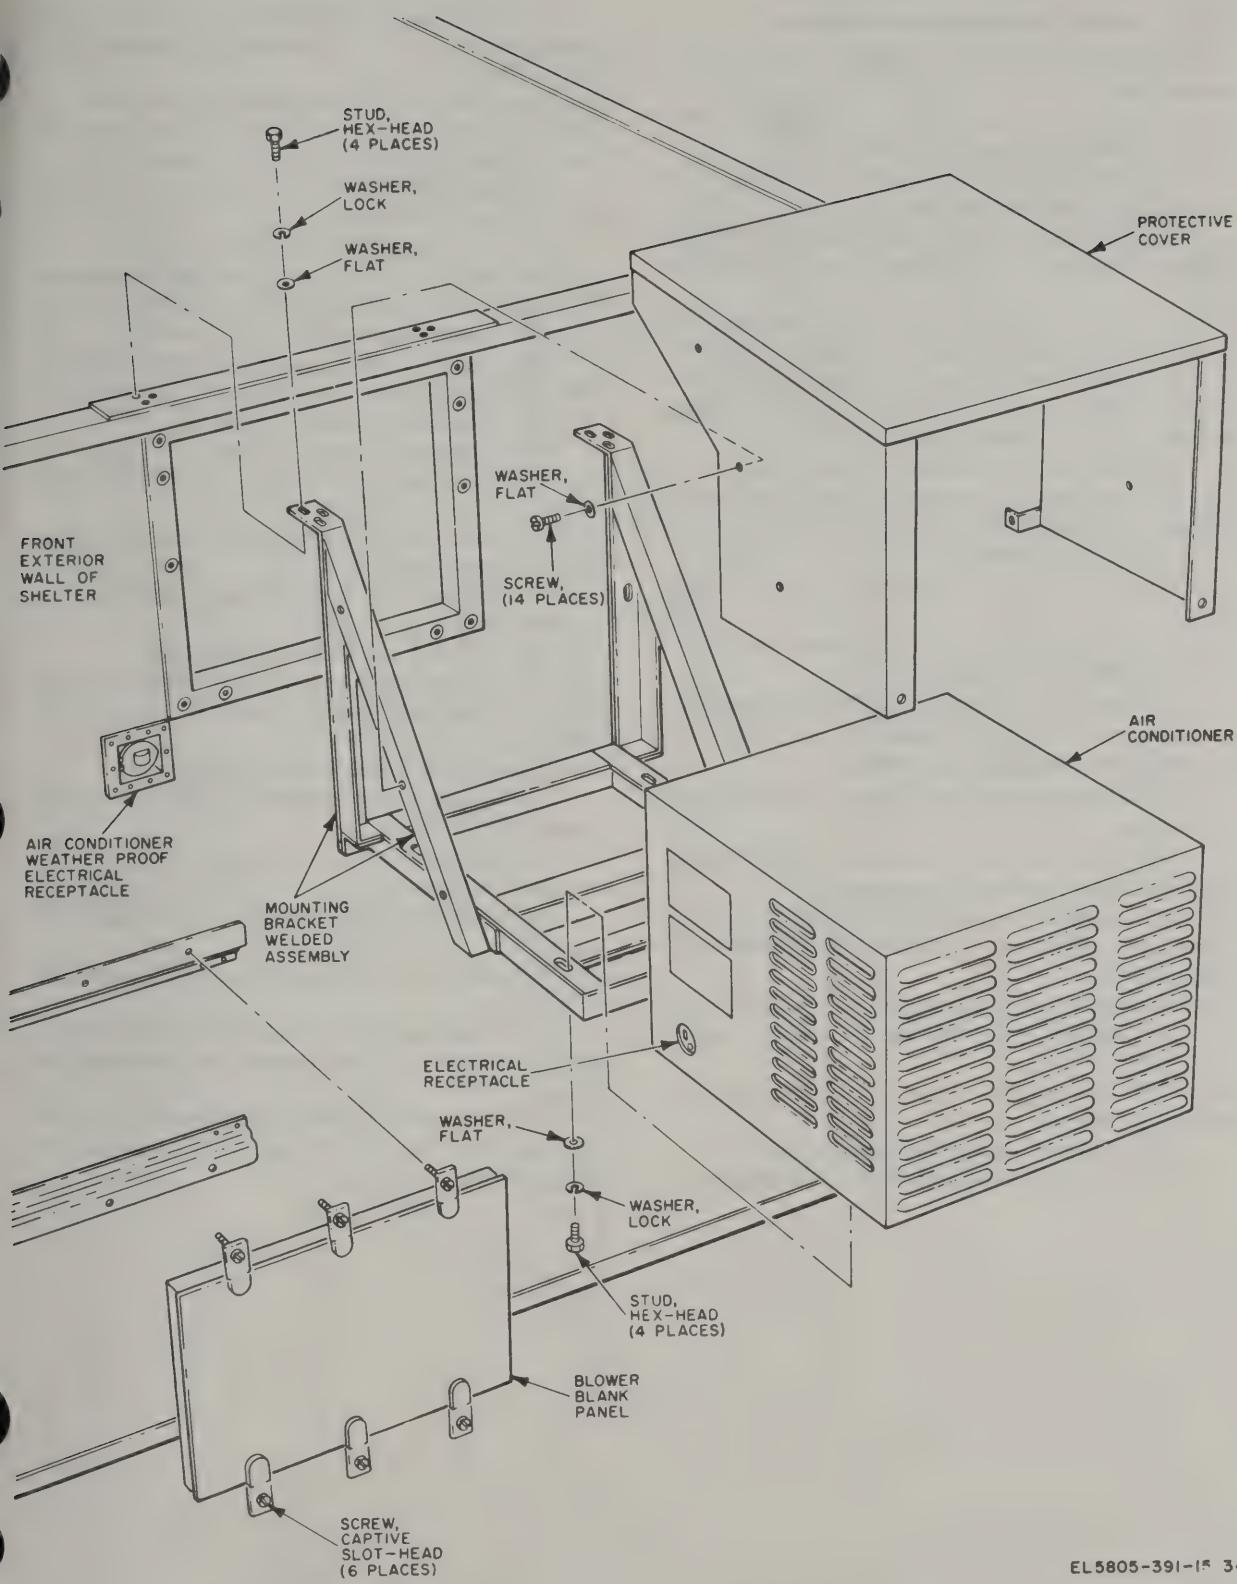

Figure 4-5. Removal of air conditioner and installation of blank panel.
a. Removal of Air Conditioner (fig. 4-5).
(1) Turn the AIR COND circuit breaker to OFF.
(7) Remove the 17 hexagonal-head studs that secure the air conditioner mounting bracket to the shelter. Remove the mounting bracket.
b. Installation of Blank Panel (fig. 4-5).
(1) Remove the six slot-head, captive screws that secure the blank panel to the exterior front curbside of the shelter. Remove the blank panel.
(2) Place the blank panel in the air conditioner opening.
(3) Align and secure the blank panel using the six slot-head, captive screws.
(4) Adjust and tighten the wing brackets on each side of the interior of the blank panel.